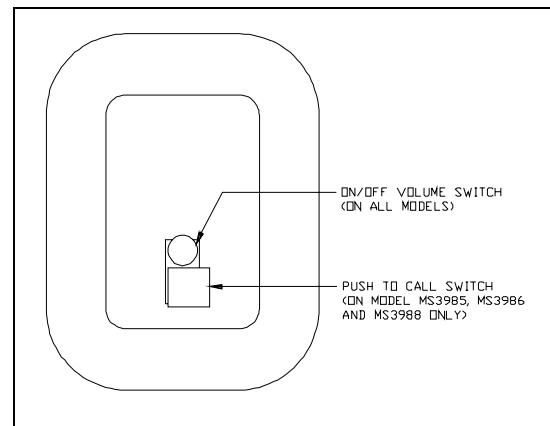

Figure 1. Inside Front Cover
1. Push the entire bracket/harness/switch/connector assembly straight into the front cover. See Figure 1 for orientation.